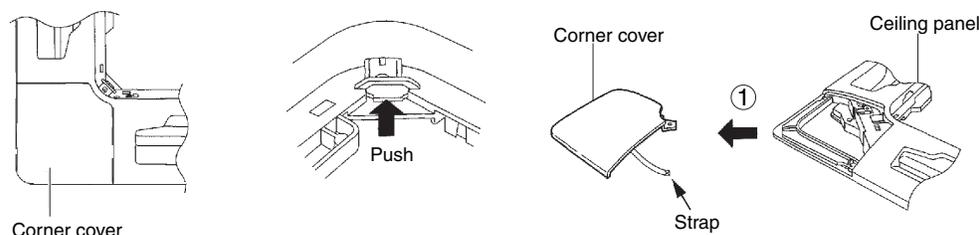

Fig. 3-18
- a) Slide the corner cover to the direction shown by the arrow ① to remove the corner cover. (Fig. 3-18).